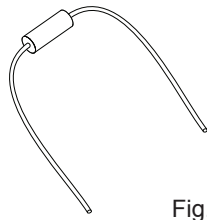

Fig. 40
1. The addition of this resistor (Fig. 40) allows the boiler to achieve higher flow temperatures for a given outside temperature when compared with the standard outdoor sensor.